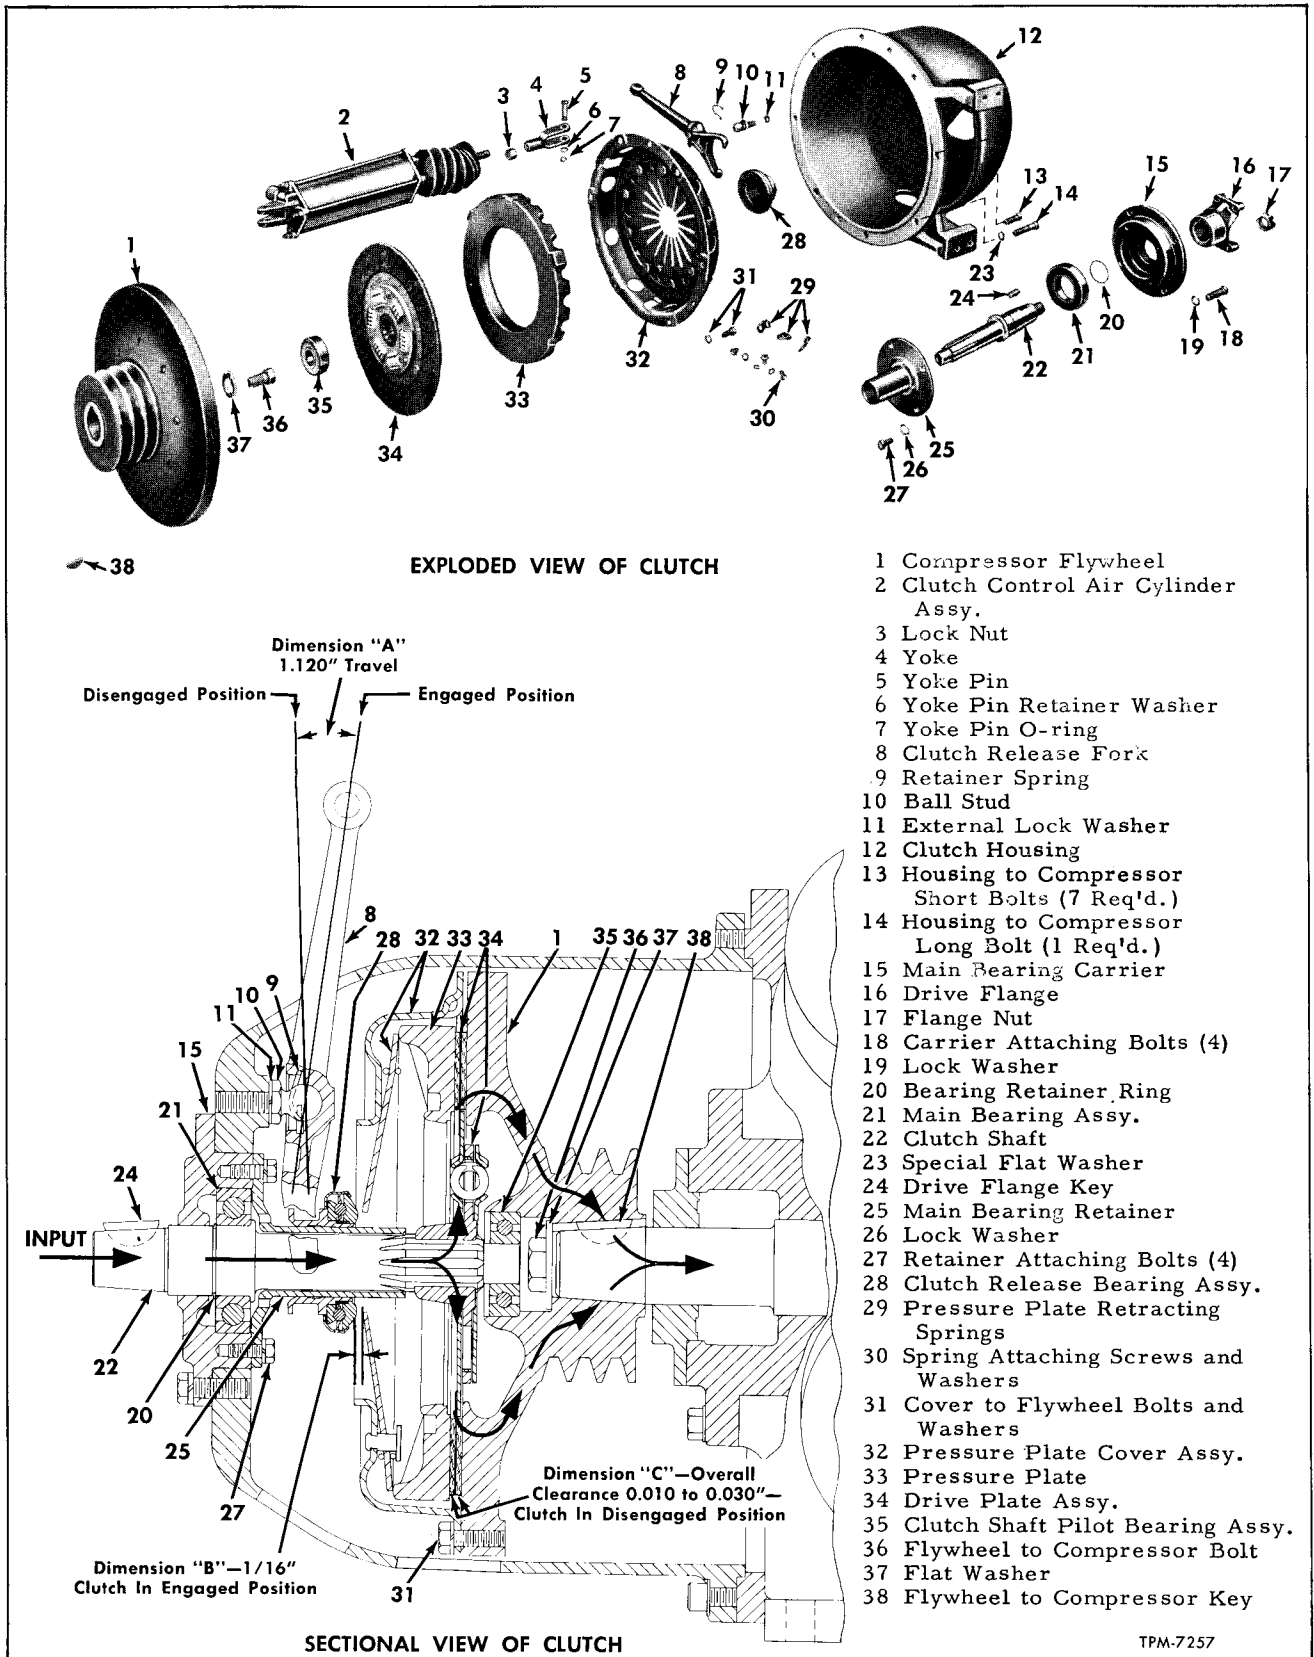
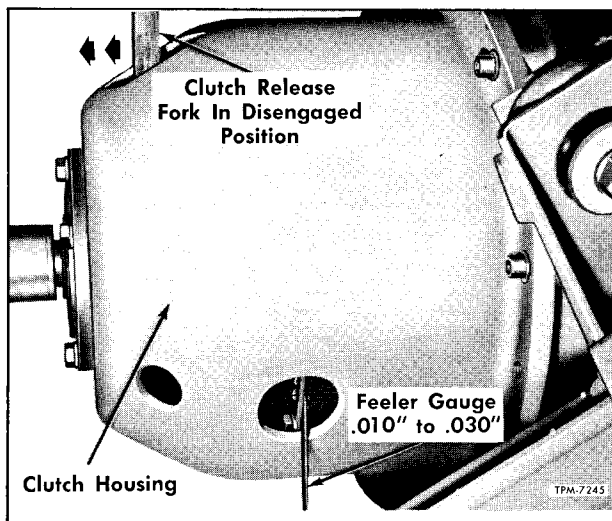
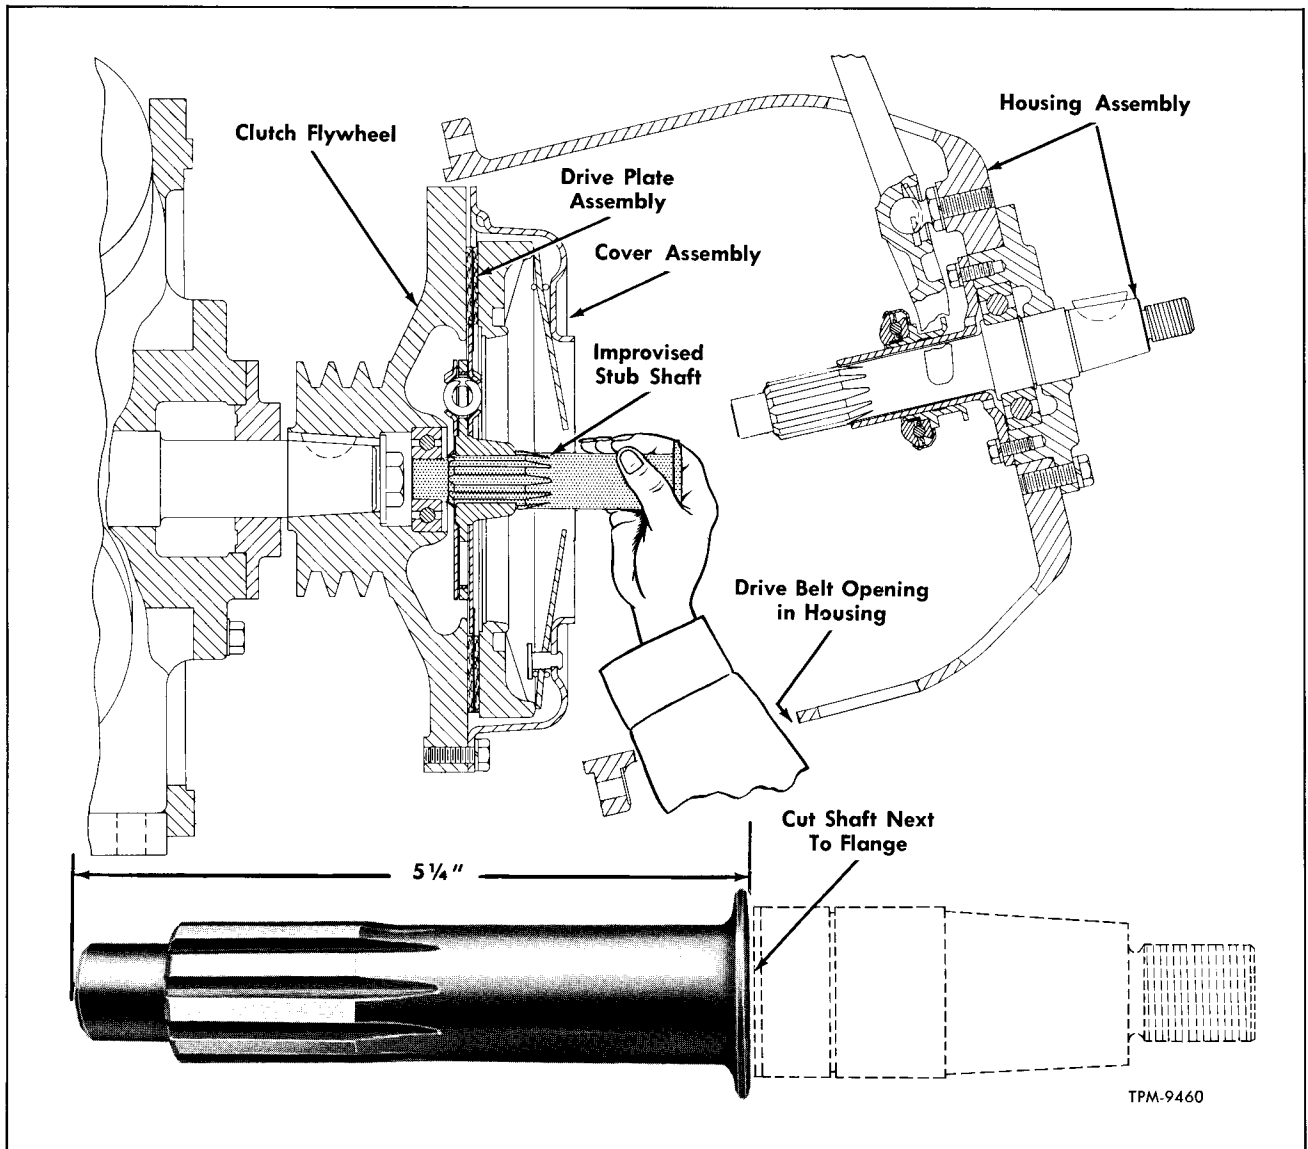

Figure 95—Compressor Drive Clutch Components
Figure 96—Checking Clutch Drive Plate Clearance
Figure 101—Installing Clutch Drive Plate and Cover Using Alignment Tool (Compressor in Coach)
pressure from clutch cover spring causing clutch to become engaged. Lower view of figure 95 shows clutch in the engaged position, air pressure applied. The upper view of figure 95 shows disassembled components of clutch.
Before placing system in season operation and at periodic chassis lubrication intervals, the clutch release bearing retainer, item 25, figure 95 and the pin at each end of clutch air cylinder should be lubricated. Access to the bearing retainer can be obtained by removing the compressor compartment dust shield and using a small long-handled brush to reach into access hole in underside of clutch housing. Use grease containing zinc oxide.
At regular intervals the over-all clearance between the clutch driven plate, the pressure plate, and the compressor flywheel (dimension "C" fig. 95) should be checked. Clearance should measure 0.010" to 0.030". This is accomplished as follows: With clutch disengaged, air cylinder push rod extended, measure plate clearance through hole in bottom of clutch housing and one of the holes in pressure plate cover (fig. 96). Clutch cover must be rotated so that holes will line up to insert feeler. If clearance is not as specified, make adjustment as follows:
With clutch in the engaged position (air pressure applied), release bearing should clear the Belleville spring by at least 1/16 inch (dimension "B," fig. 95). If there is less than 1/16 inch it means that more stroke is being applied to spring than is necessary to get .010-.030 inch plate clearance. Distance of release bearing from Belleville spring can be checked by removing pin through yoke and release fork and swinging bearing against spring by hand. Then gradually move bearing away from spring, observing distance the outer end of release
The compressor drive clutch (fig. 95) enclosed by an aluminum housing is mounted to drive end of compressor. Clutch is of the conventional automotive type and is actuated by an air powered cylinder assembly mounted to side of compressor.
The clutch input shaft, which is propeller shaft driven from engine accessory drive is engaged directly to the clutch drive plate assembly. Thus the drive plate is turning whenever the coach engine is running. When clutch is engaged by action of the air cylinder, the Belleville spring of clutch pressure plate is released. This action releases pressure plate to engage both drive plate and compressor flywheel to turn the compressor. Large arrows on figure 95, indicate the power flow from the drive shaft input through the clutch to the compressor.
IMPORTANT: One special tool, which can be improvised locally is necessary for making these replacements. **DO NOT ATTEMPT TO MAKE REPLACEMENTS UNLESS THIS TOOL IS AVAILABLE.** Tool is used for holding drive plate in alignment when installing cover assembly to clutch flywheel. Cut off a portion of an old clutch shaft (22, fig. 95) at a point shown in figure 101. Same like part can be made up from an old Chevrolet mechanical transmission main drive (clutch) gear.
7. Spring-loaded clutch cylinder (2, fig. 95) must be disconnected from clutch release fork (8, fig. 95). In order to remove fork connecting pin
(5, fig. 95), disconnect cylinder air line hose at air control solenoid valve, then apply shop air pressure through hose into air cylinder (min. air pressure required - 65 lbs.). This action will relieve pressure on cylinder yoke pin, allowing pin to be removed.
10. Remove socket head bolts (13 and 14, fig. 95) which attach clutch housing to compressor. Using two of these screws installed into tapped holes, one at top, and bottom of housing, separate housing evenly from compressor.
2. Using improvised stub shaft as shown in figure 101, insert shaft into splines of drive plate and then into pilot bearing within clutch flywheel.
NOTE: Install longer attaching bolt at location shown in figure 95. See item 14.
6. Apply shop air pressure to clutch control air cylinder, then install cylinder to release fork clevis pin, pin (washer) retainer, and rubber O-ring (5, 6, and 7, fig. 95). Attach cylinder air line to air control solenoid valve.